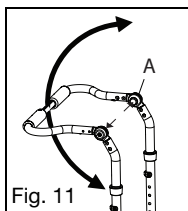

Fig. 11
1. If the chair is equipped with a height adjustable backrest, push the buttons of the locking hinges (Fig. 11:A). Both of the buttons must be pressed simultaneously to adjust the angle.